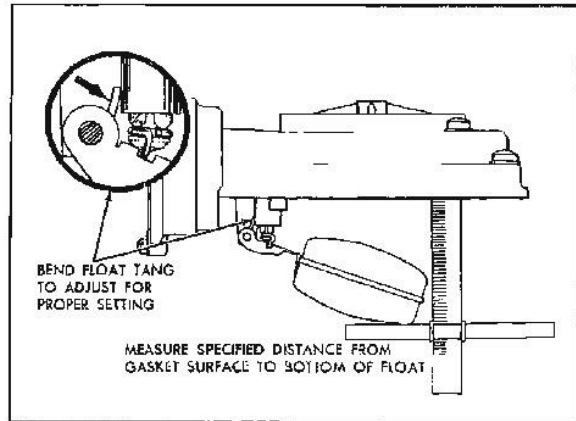

Fig. 6B-103 Float Drop Adjustment
**PUMP ROD ADJUSTMENT (Fig. 6B-104)**